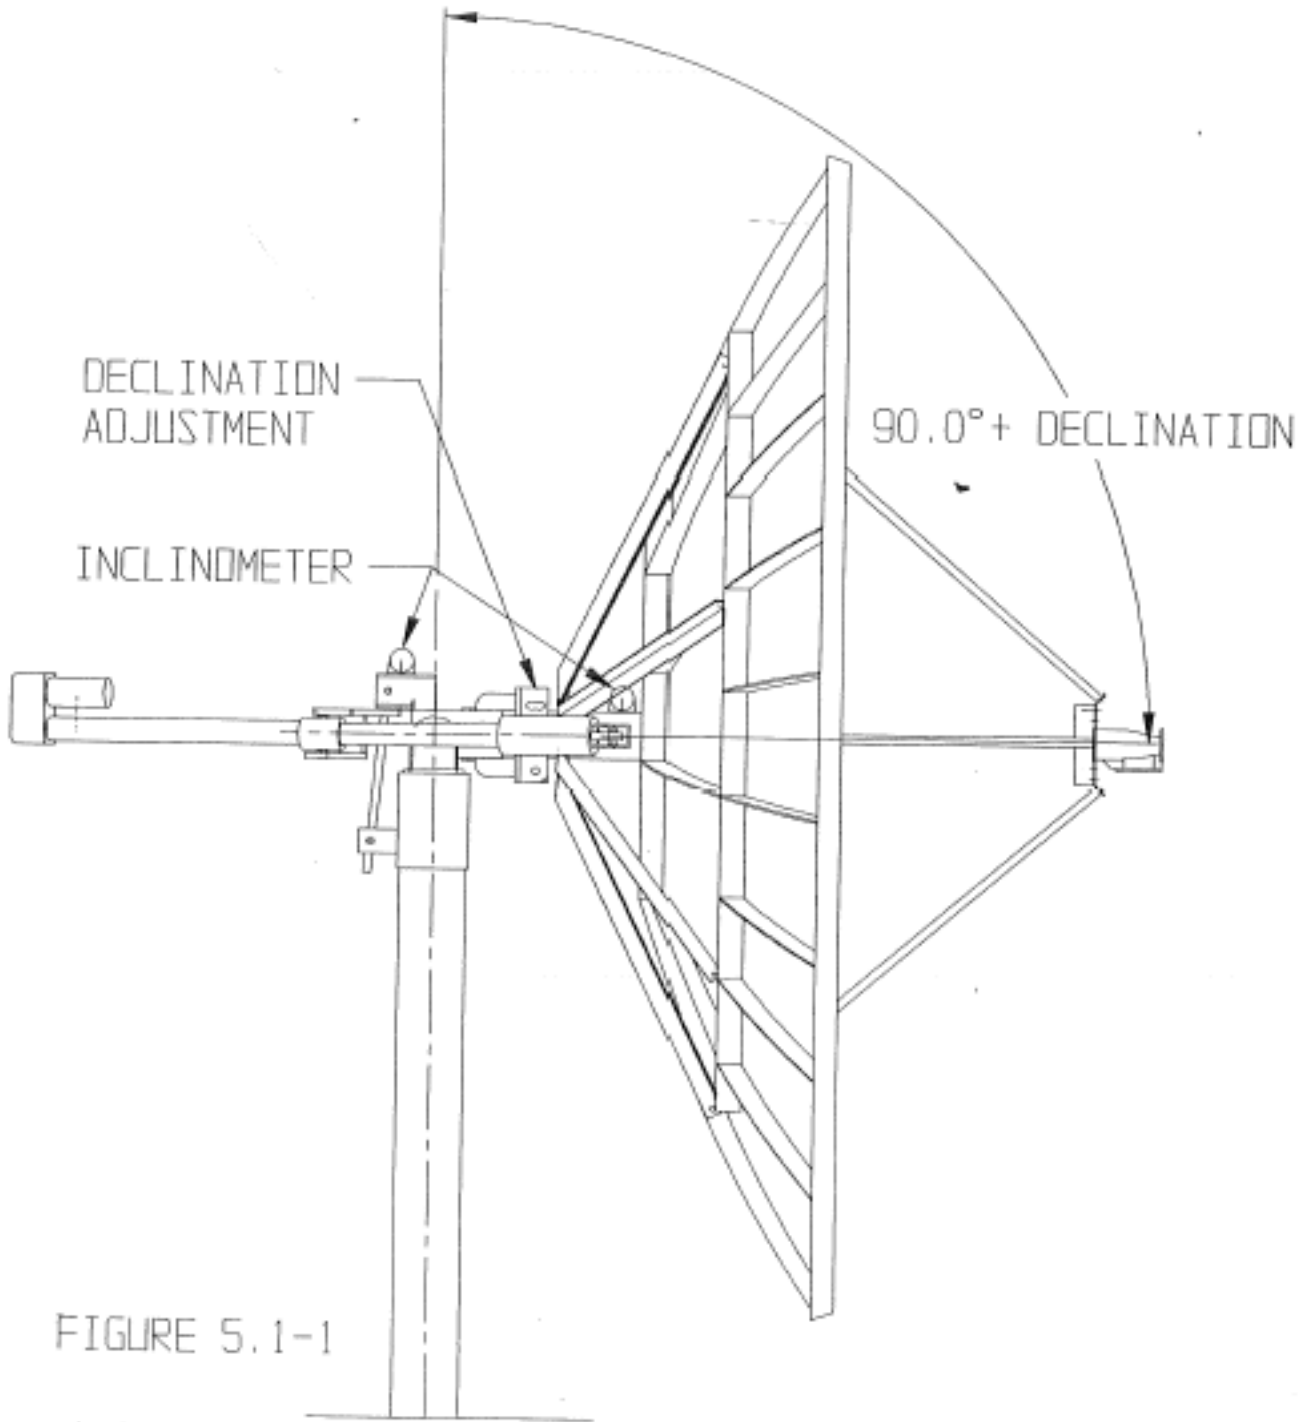

FIGURE 5.1-1
1. Set the polar axis angle to zero (due south) by sliding the actuator in the clamp. Place an inclinometer on the hub as shown in figure 5.1-1, then on the polar axis as shown. The difference between these two readings should be 90 degrees plus the declination angle. Table 5.1-1 gives the recommended declination angles as a function of site latitude. Adjust the declination rod until the correct setting is achieved, then tighten all declination hardware.